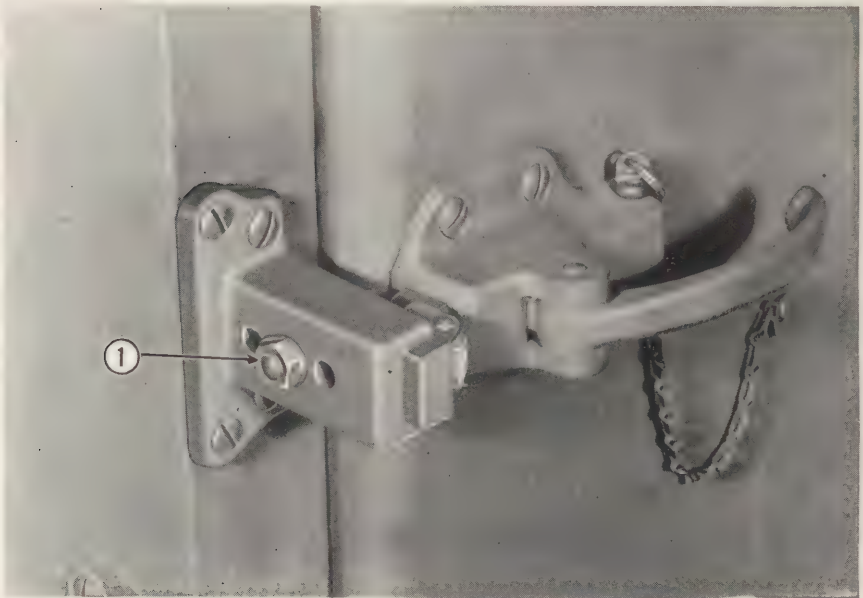

Figure 69. Adjusting the door latch strike.
- (1) Adjust the door latch strike (fig 69) by loosening the door strike nut (item 1) and disengaging the teeth on the bolt head from the teeth on the roller strike. By moving the roller strike in toward the cabinet an increased door gasket pressure can be obtained. After making the adjustment tighten the nut (item 1) on the door strike.